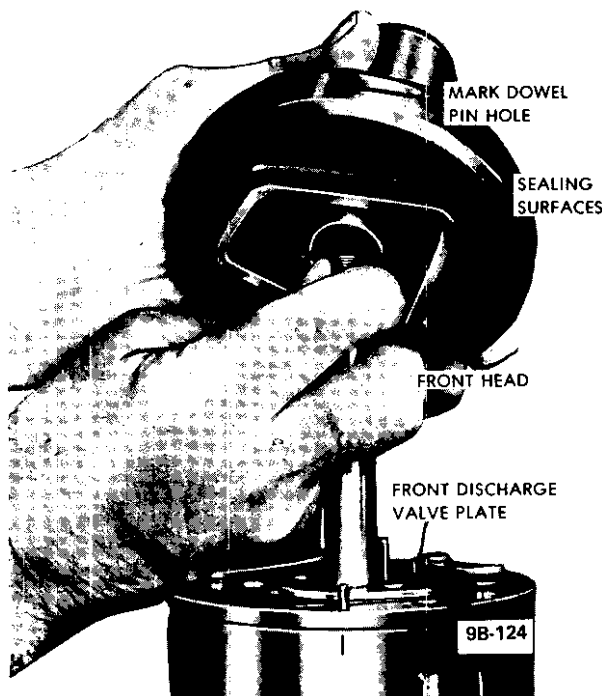

Figure 9B-154 Placing Front Head on Cylinder Assembly
4. Mark with pencil on side of front head the location of dowel pin holes (see Figure 9B-154), align front head with dowel pins, and tap head lightly with mallet to seat on cylinder assembly.
5. Place new shell to head "O" ring on shoulder of front head (see Figure 9B-155) and liberally coat "O" ring and front head sealing surface with No. 525 viscosity oil.